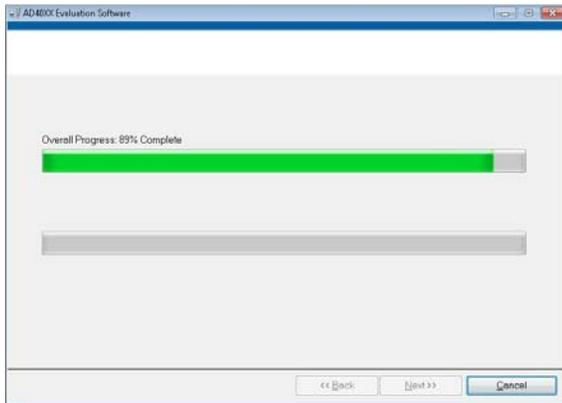

Figure 7. Overall Progress
5. A pop-up window opens and displays a bar showing the installation progress, as shown in Figure 7.